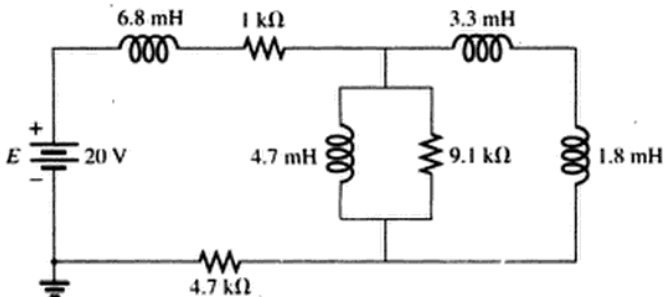

FIG. 11.102
37. Reduce the network in Fig. 11.102 to the fewest number of components.